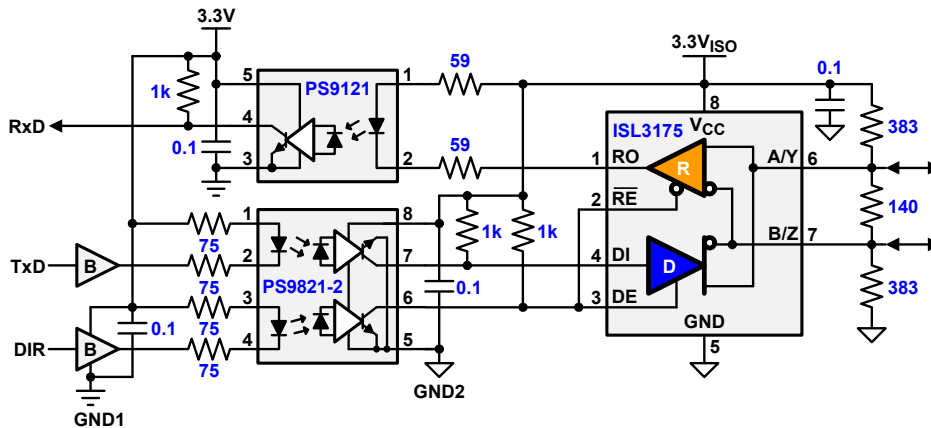

Figure 12. Low-Supply, 2.5kV Isolated RS-485 Interface (Tx/Rx Mode)
- Figure 12. Low-Supply, 2.5kV Isolated RS-485 Interface (Tx/Rx Mode) 7